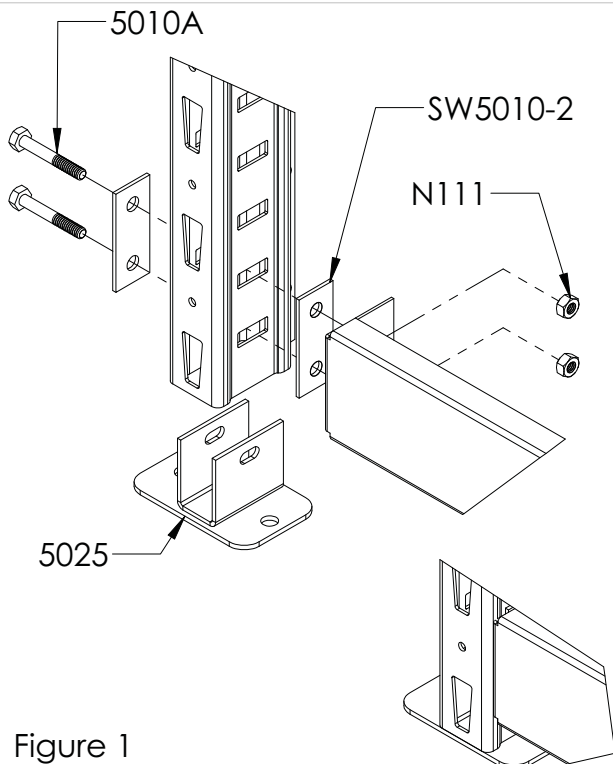

Figure 1
- Insert Foot Plate into the bottom of the H-Post with the provided hardware. (Figure 1)